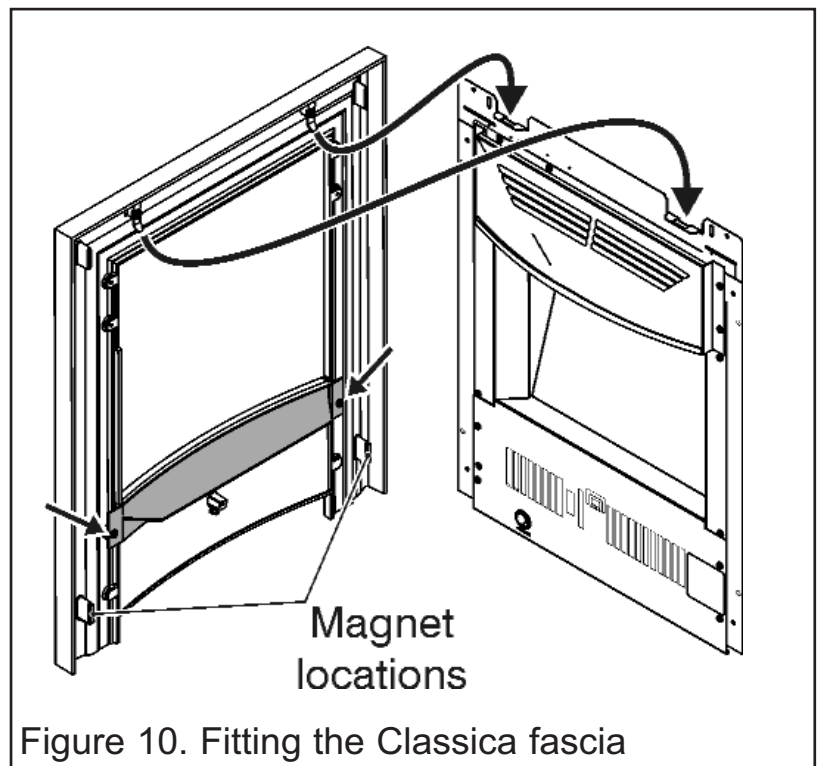

Figure 10. Fitting the Classica fascia
2. There are two magnets on the lower raised areas of the fascia (See figure 10). Ensure that they are located correctly before fitting the fascia.
3. Supplied with the fascia is a black decorative moulding. Remove the two screws from the rear of the fascia (See figure 10), locate the moulding and secure using the two screws removed previously.
4. Hold the fascia firmly and lift into place. Keeping the magnets away from the body of the firefront, locate the fascia hanging brackets into those on top of the firefront (See figure 10). Lower the fascia into place and swing the bottom of the fascia towards the firefront to engage the magnets.